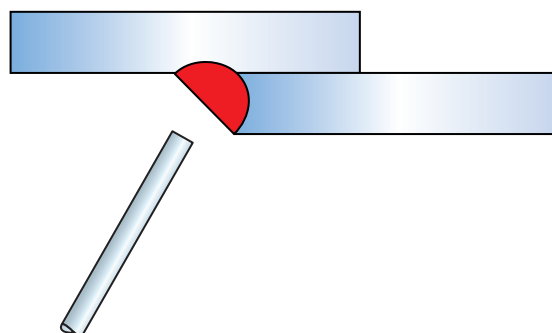

FIGURE 9-77 Point the electrode slightly toward the root of the joint.
- With the electrode pointed slightly into the joint, Figure 9-77, strike the arc in the inside corner of the lap joint.